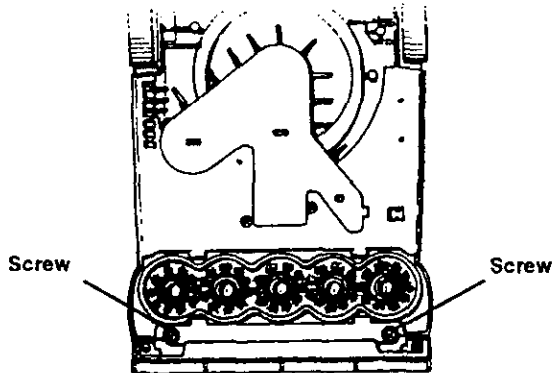

Fig. 10
2. Remove (2) screws (Fig. 10).